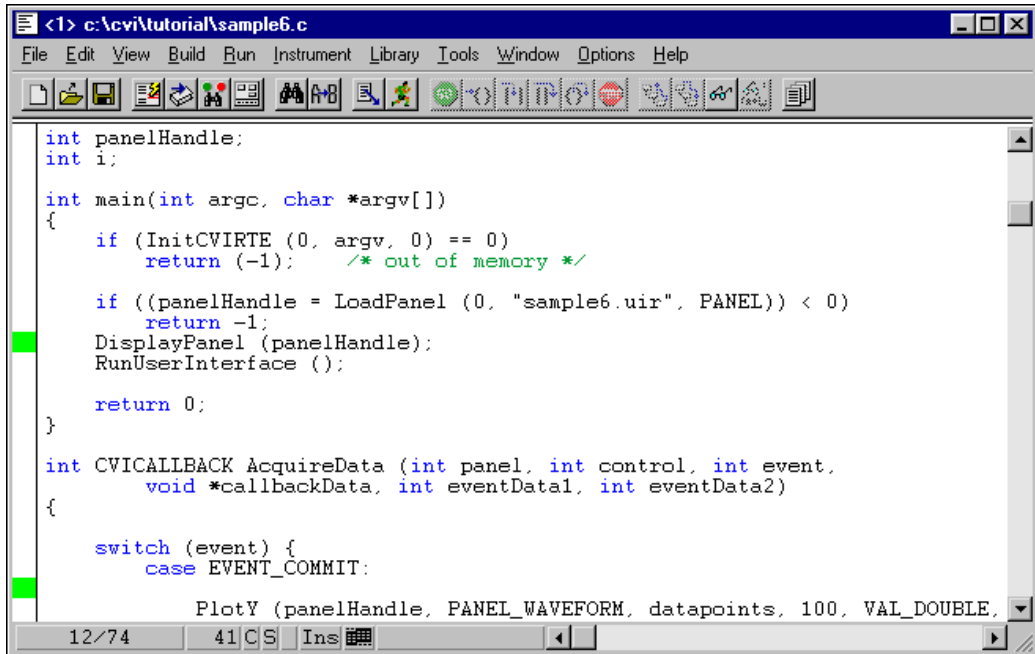

Figure 8-1. sample6.c Source File with Tags
- Position the cursor on the tagged line in the middle of the main program, the DisplayPanel function, as shown in Figure 8-1. You can move to this line quickly in the source code by pressing <F2>, which moves your cursor to the first tag set in the file.